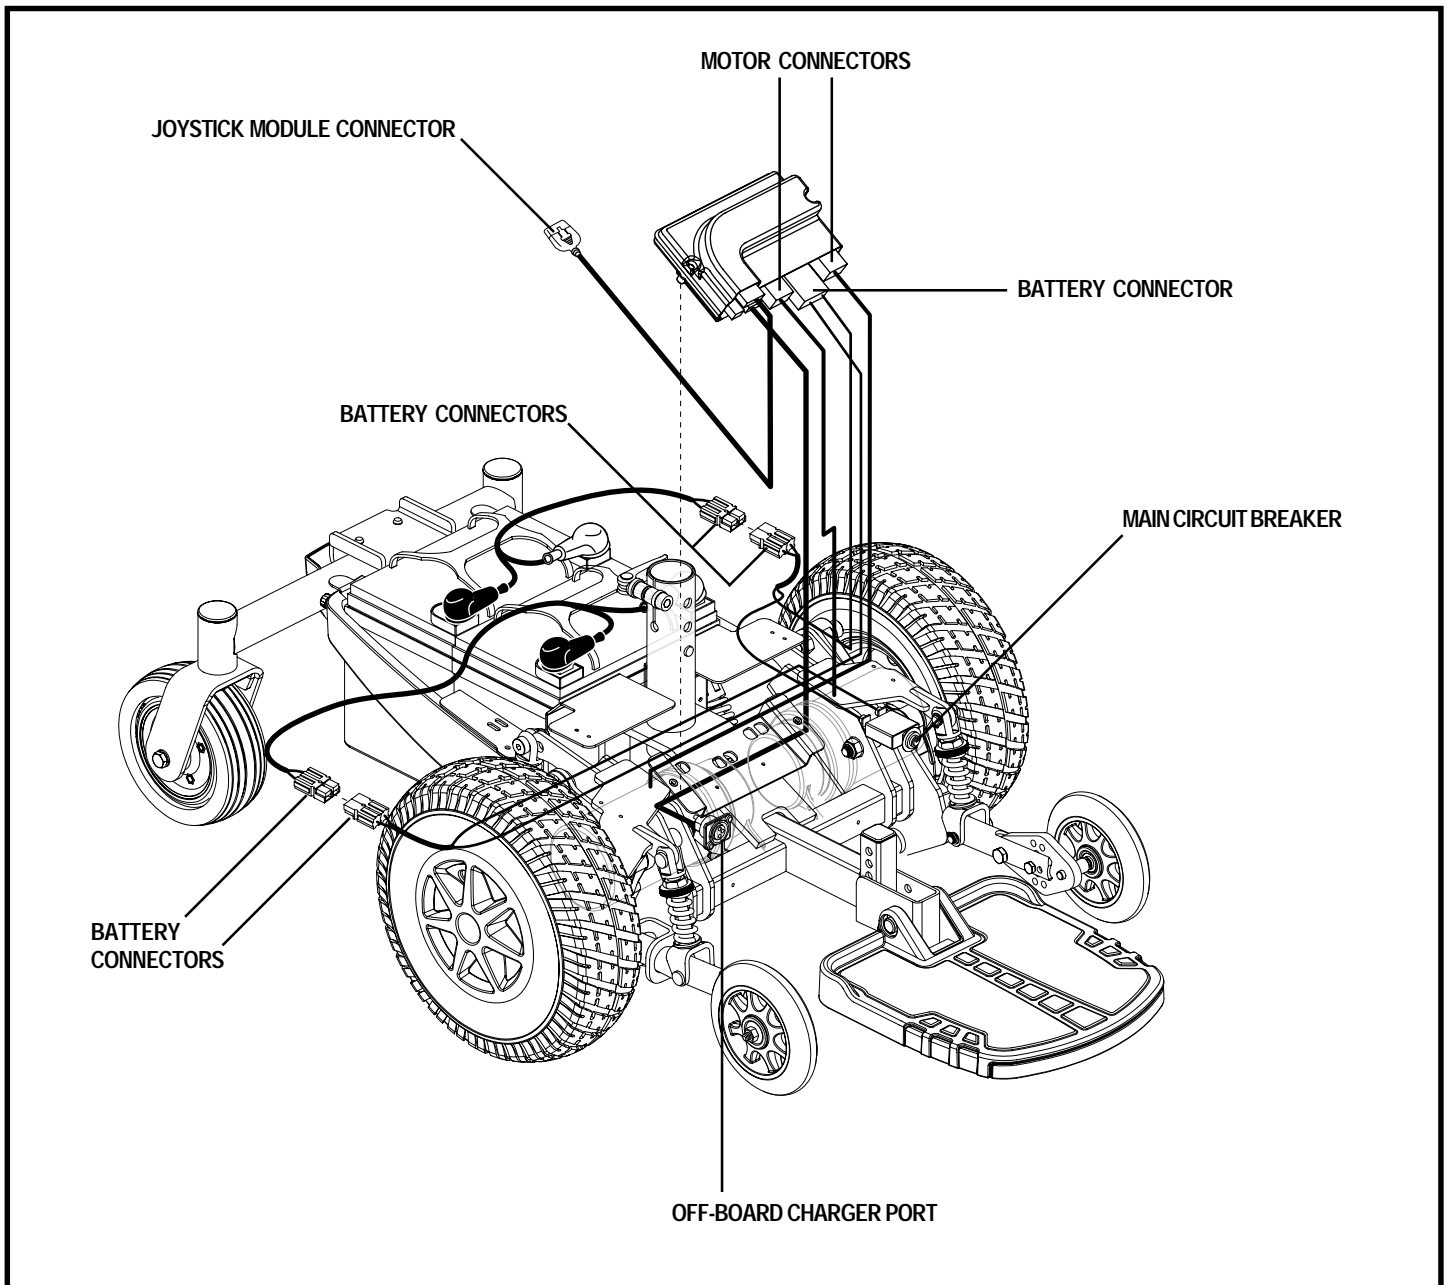

Figure 7. Jazzy Select Electrical Components
11. Plug the controller connector into the power base. See figure 7.